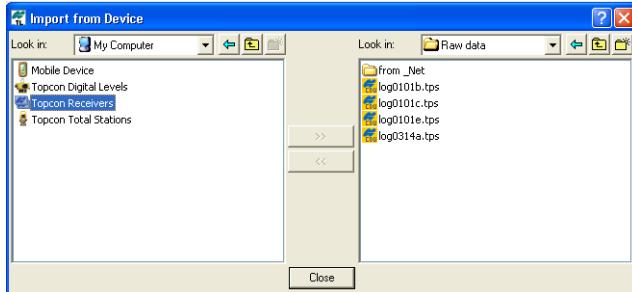

Figure 2-6. Import From Device Window
2. From the left panel of the *Import from Device* dialog box, double-click *Topcon Receivers* (Figure 2-6).